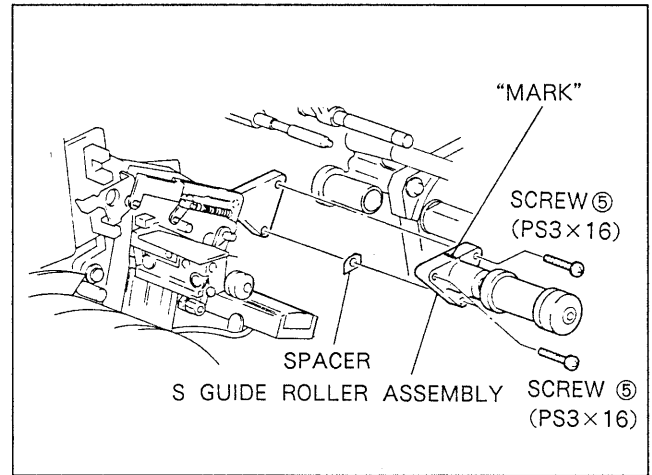

Fig. 6-18-10. S Guide Roller Installation
- 7) Install the S guide roller assembly shown in Fig. 6-18-10 in the original position taking number and position of the spacer checked in step 1) into consideration.